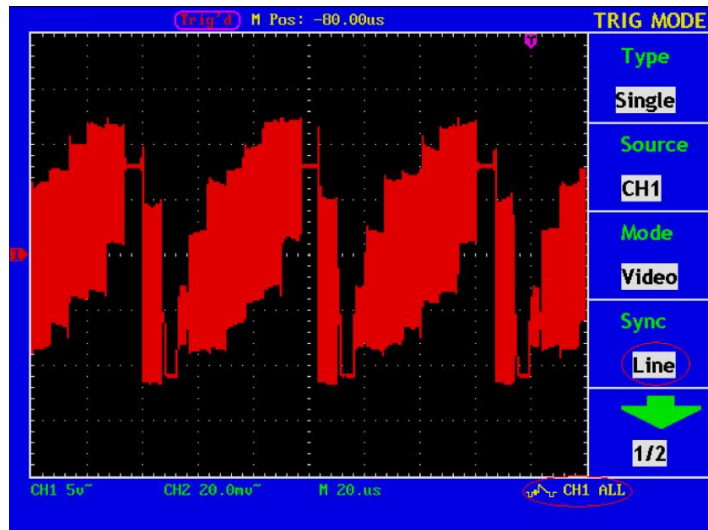

Fig. 112 Wave Form Obtained from the Video Line Trigger
6. Adjust the **VOLTS/DIV**, **VERTICAL POSITION** and **SEC/DIV** knobs to obtain the proper wave form display (see Fig. 112).